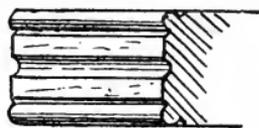

Fig. 116.—Moulded Edges.
*Beaded edges* are often used with great effect, and afford an easy means of relieving monotony, for a very plain piece of furniture may have a highly decorative effect by their judicious use. They may be made with the scratch. In Figs. 116 to 119 a few suggestions are given suitable for bearers, ends, and front edges generally. The arris bead on Fig. 116 is worked in two halves, the stock or fence of